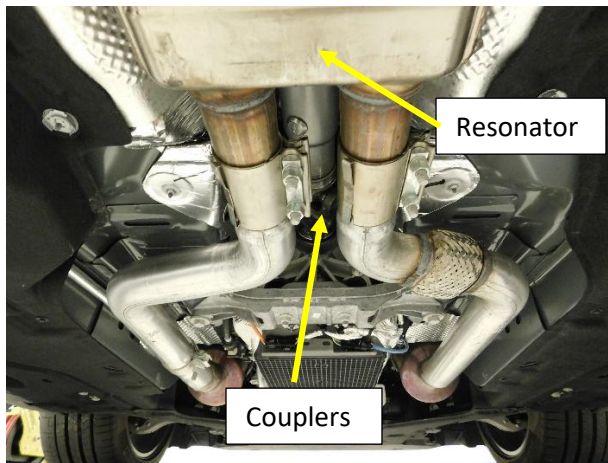

Figure.3
4. Loosen the 15mm nuts on the Couplers at the resonator inlet pipes. **Fig.3**